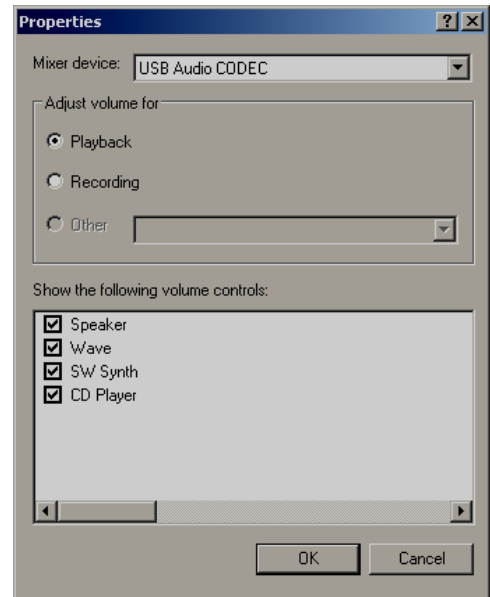

Figure 2 Properties Window
- The Properties window should now look like the one shown below in Figure 2. Verify that it does and then click OK.